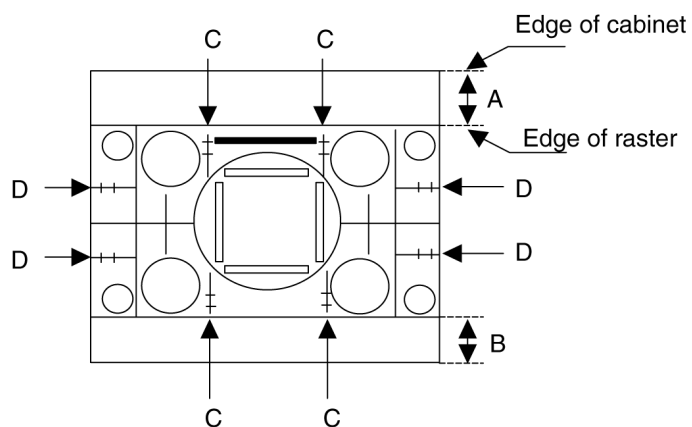

Fig 25
Adjust V-Amp(1125i_50) so that C=90 $\pm$ 2.5(%) in the Fig.25
1. Adjust H-Amp(1125i_50) so that D=92.5 $\pm$ 2.5(%) in the Fig.25